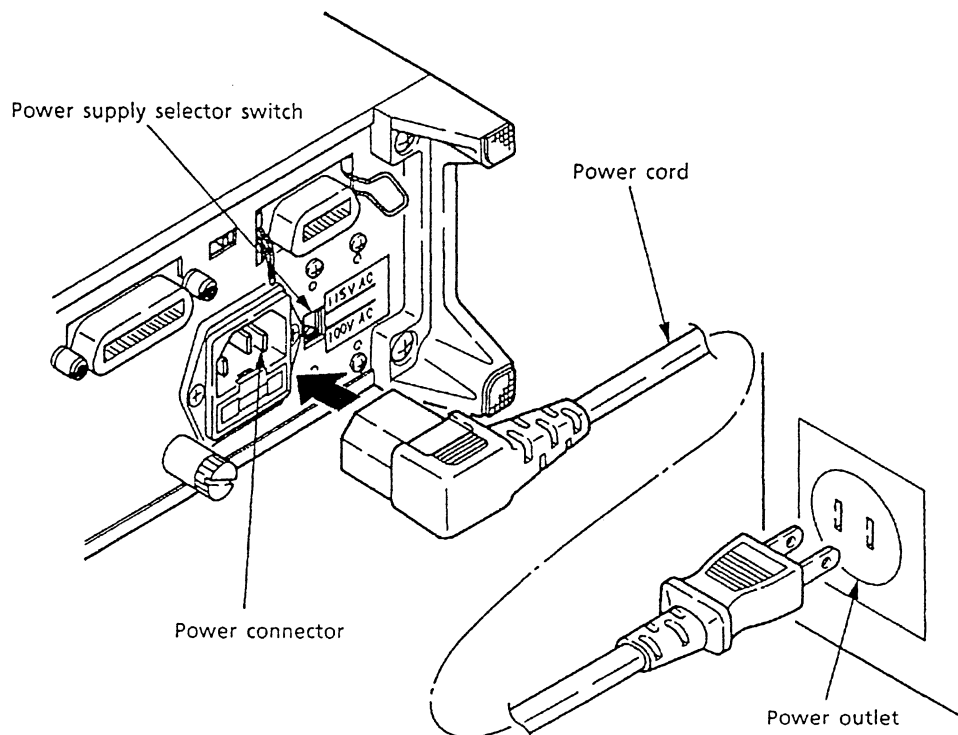

Figure 1.4 Power Supply Connection
- ① After installing the instrument, connect the power supply cord (supplied with the instrument) to the power supply connector at the rear of the instrument (see Figure 1.4).
- ② Check that the instrument power switch (front panel) is in the OFF position. Connect the power plug to the power outlet as shown in Figure 1.4. Always use a power supply within the rated voltage. The rated power supply is indicated to the side of the power switch (see Figure 1.4).